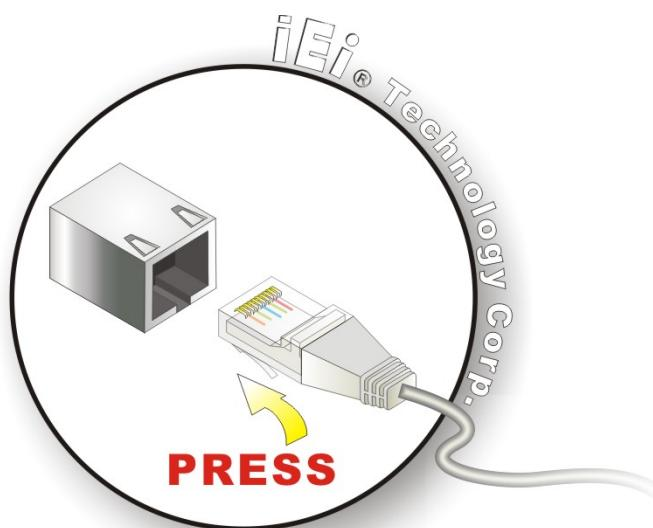

Figure 4-19: LAN Connection
Step 2: Align the connectors. Align the RJ-45 connector on the LAN cable with one of the RJ-45 connectors on the IMBA-G410. See Figure 4-19.